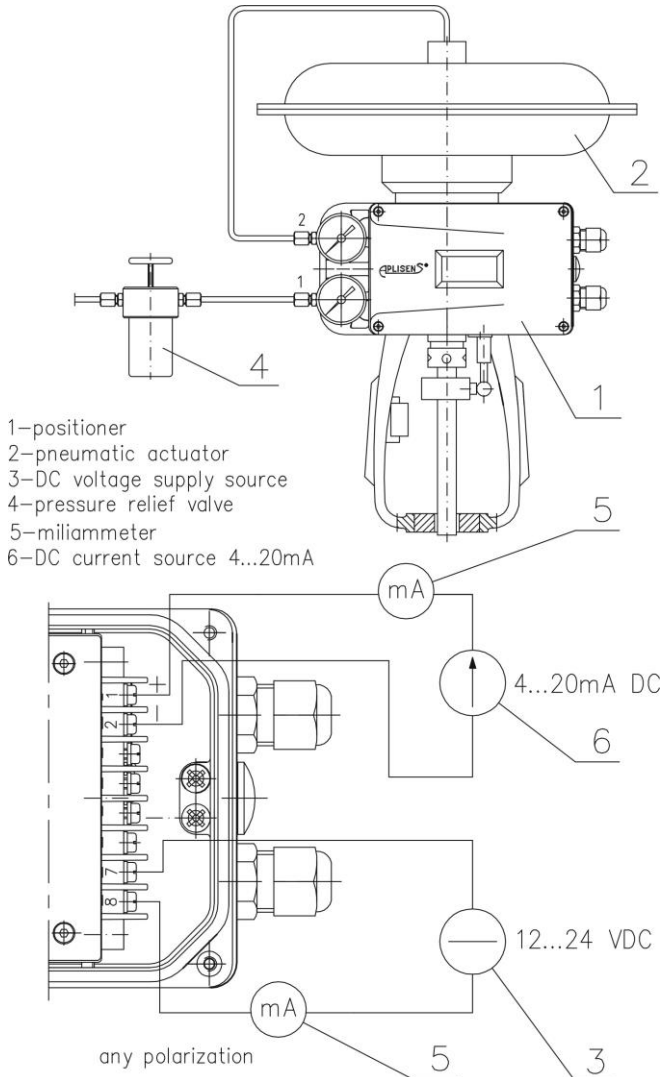

Fig. 16. Diagram of measuring circuit for starting APIS-1X0-... positioner (single-acting membrane actuator)
- a) Positioner APIS-100-... installed on the actuator acc. to point 10.2...10.4. should be connected with the measuring system acc. to the diagram presented in Fig. 16.
e) Current programming device item 6 – e.g.: Fig. 16 decrease input signal to 4 ± 0.01 mA; The following will appear on the display e.g.:
Pneumatic wiring diagram of the positioner is presented in the Fig. 16...18, and electrical wiring diagram in the Fig. 19 (depending on version of the positioner).